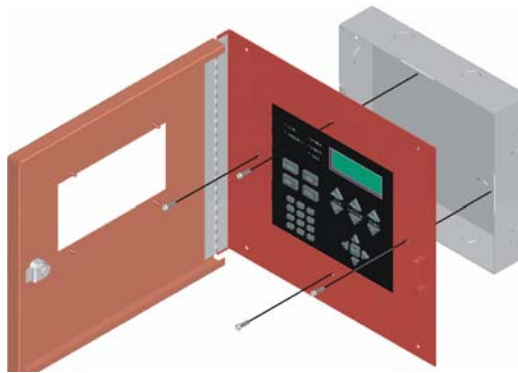

Figure 4: Attaching Annunciator/Door Assembly to Backbox
4. Attach the annunciator and door assembly to backbox as shown in Figure 4 using the supplied